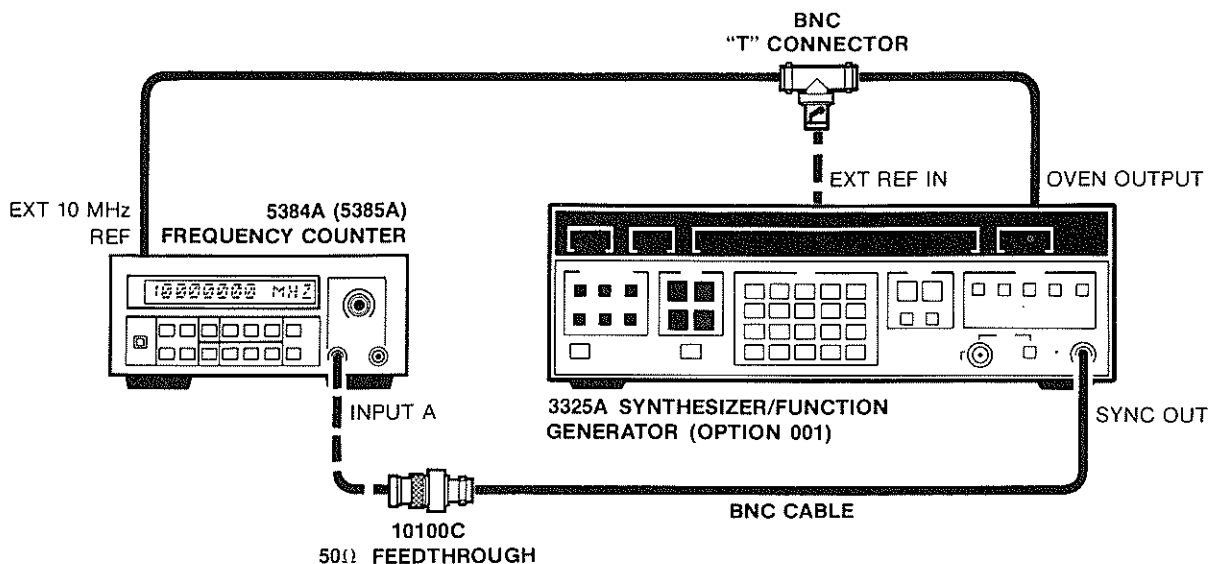

Figure 4-5. Period A Test Setup
- a. Connect the 3325A synthesizer/function generator to the 5384A/5385A channel A input as shown in Figure 4-5.